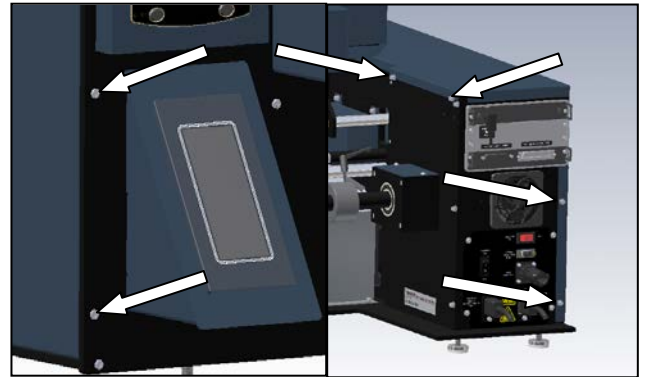

Figure 3-125. Frame Cover Screws
1. Remove six screws holding Frame Guard, set screws and Frame Guard aside (Figure 3-125).